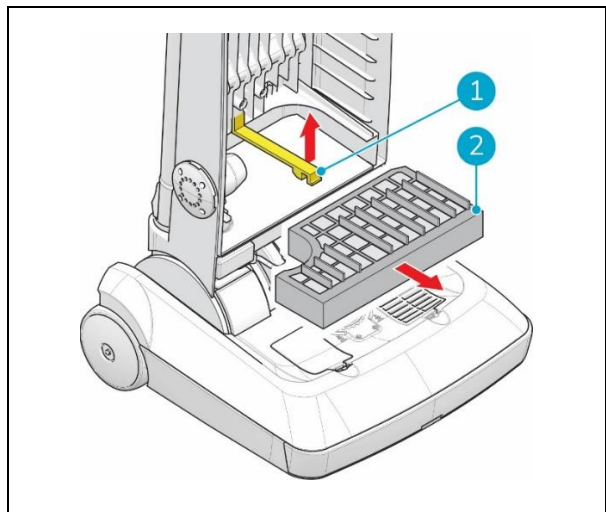

Figure 22
2. Pull up the yellow clamp (Figure 22, pos 1).
3. Remove the old cassette filter (Figure 22, pos 2).